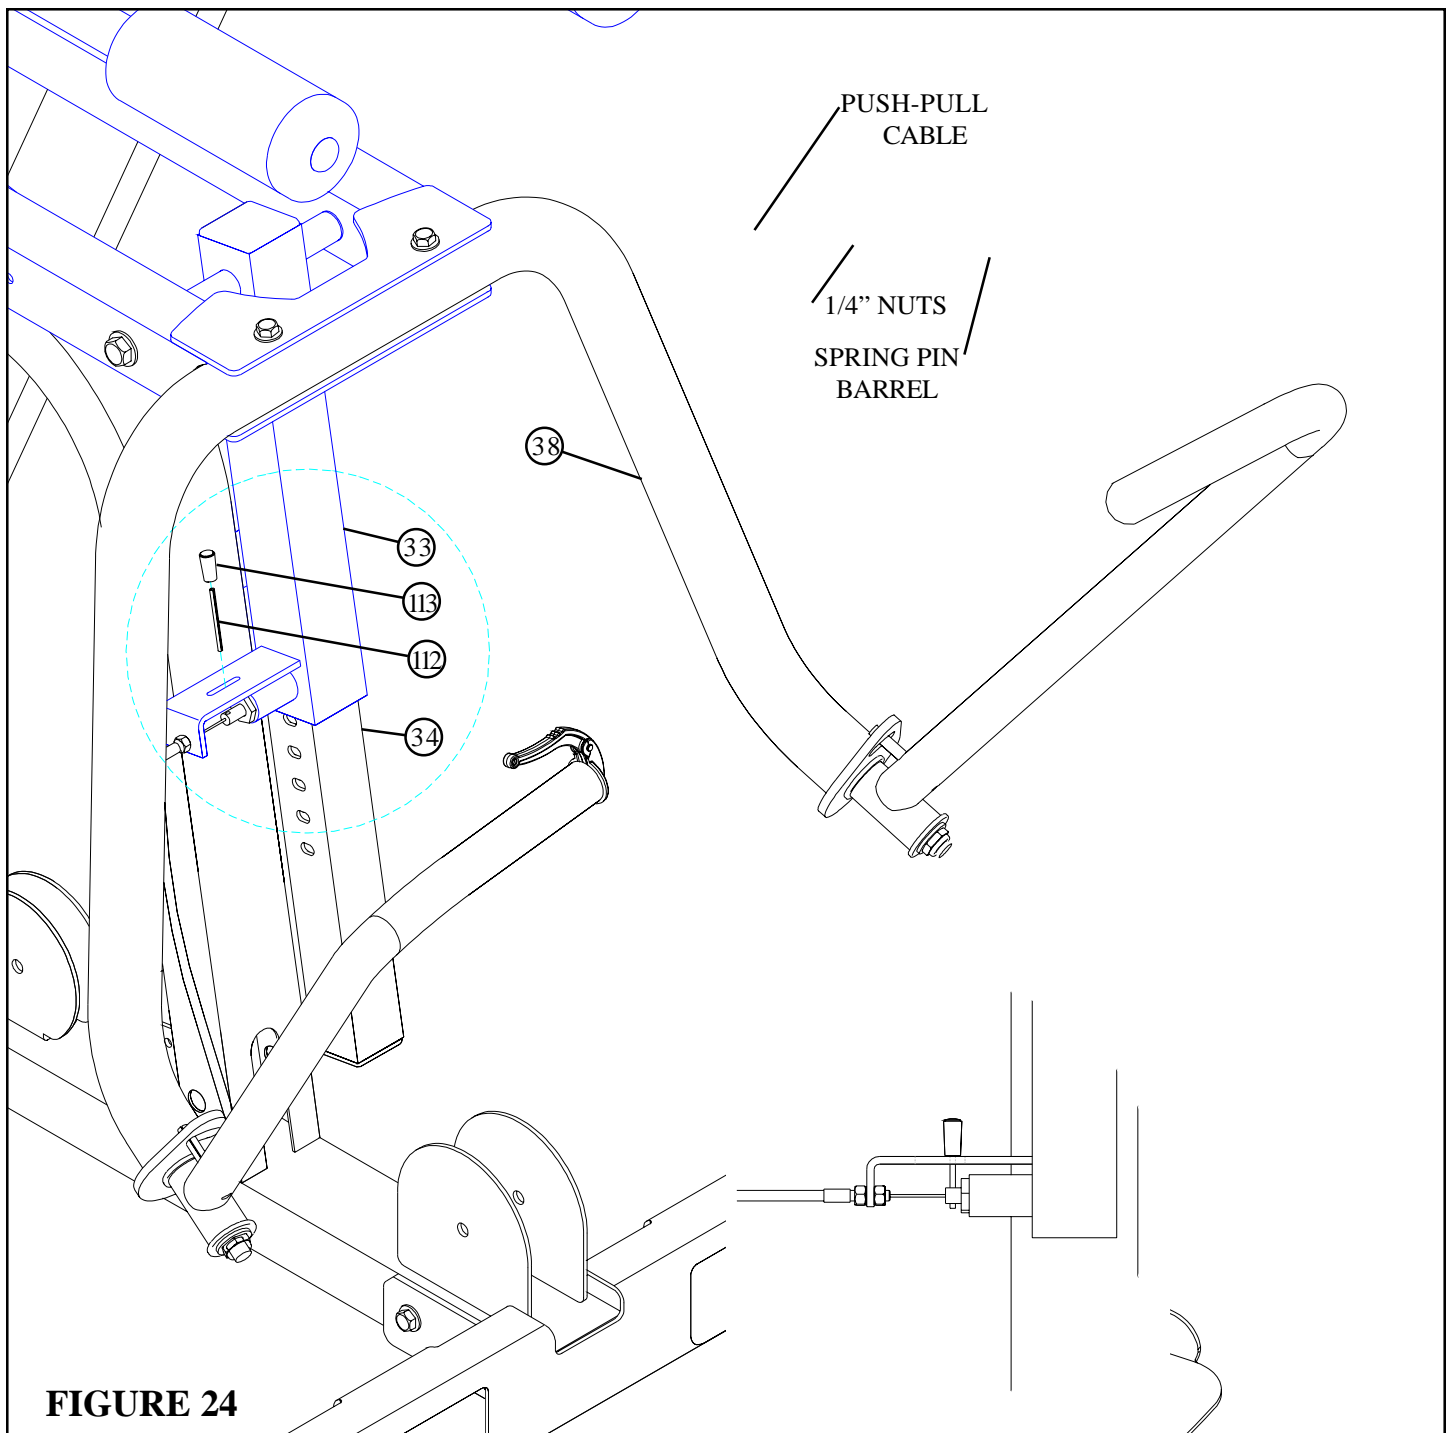

FIGURE 24
- **SECURELY** assemble the SPRING PIN ASSEMBLY of the PUSH/PULL CABLE to the spring pin barrel on the EXTERIOR PRESS ADJUST (33). (**!!! IMPORTANT !!! TIGHTEN THE NUT OF THE SPRING PIN ASSEMBLY SECURELY**)
- Swing the PRESS ARM (38) up until the SPRING PIN of the PUSH/PULL CABLE engages in one of the adjustment holes on the INTERIOR PRESS ARM ADJUST (34).
- Thread the second 1/4" NUT onto the threaded end of the CABLE, and cinch the two 1/4" NUTS around the flat on the EXTERIOR PRESS ADJUST (33). (**IMPORTANT! DO NOT OVER TIGHTEN NUTS!**)
- Insert the 1/8" ROLL PIN (112) thru the EXTERIOR PRESS ADJUST (33) and into the small hole on the SPRING PIN. (**NOTE: Hammer may be needed to pound in PIN.**) Assemble BUMPER CAP (113) to the 1/8" ROLL PIN (112) as shown in FIGURE 24.